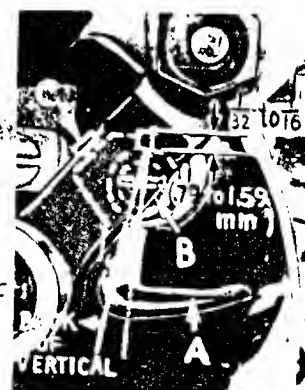

Fig. 8
Insert upper looper (A, Fig. 8) in its holder. Screw (B) holds upper looper in its holder, and permits it to be pushed in or out, or turned around its shank. Insert upper looper holder into upper looper shaft, if it is not already in place. Screw (C, Fig. 8) on clamp holds the upper looper holder in the shaft. Locate upper looper in its holder so that the shank extends $1/32$ to $1/16$ inch (.79 to 1.59 mm) beyond holder (Fig. 8), for 695B010, 011, 041, 043, 050 and 052, and $1/16$ to $3/32$ inch (1.59 to 2.38 mm) for 695B016, 028, 042 and 054.
When the upper looper is at the right end of its stroke, upper looper holder should be set to position upper looper shank slightly back of vertical on 695B010, 011, 016, 028, 041, 043, 050, and 054 (Fig. 8). On 695B042 upper looper holder should be set to position the upper looper shank about vertically.